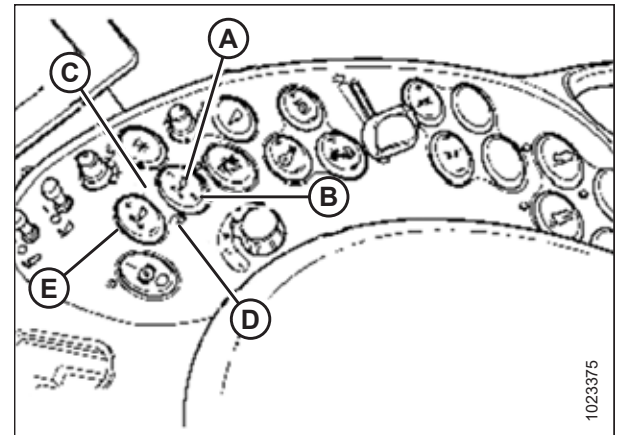

Figure 4.60: Case Combine Controls
You can adjust these set points by using FINE ADJUST switch (E) in Figure 4.60, page 125.